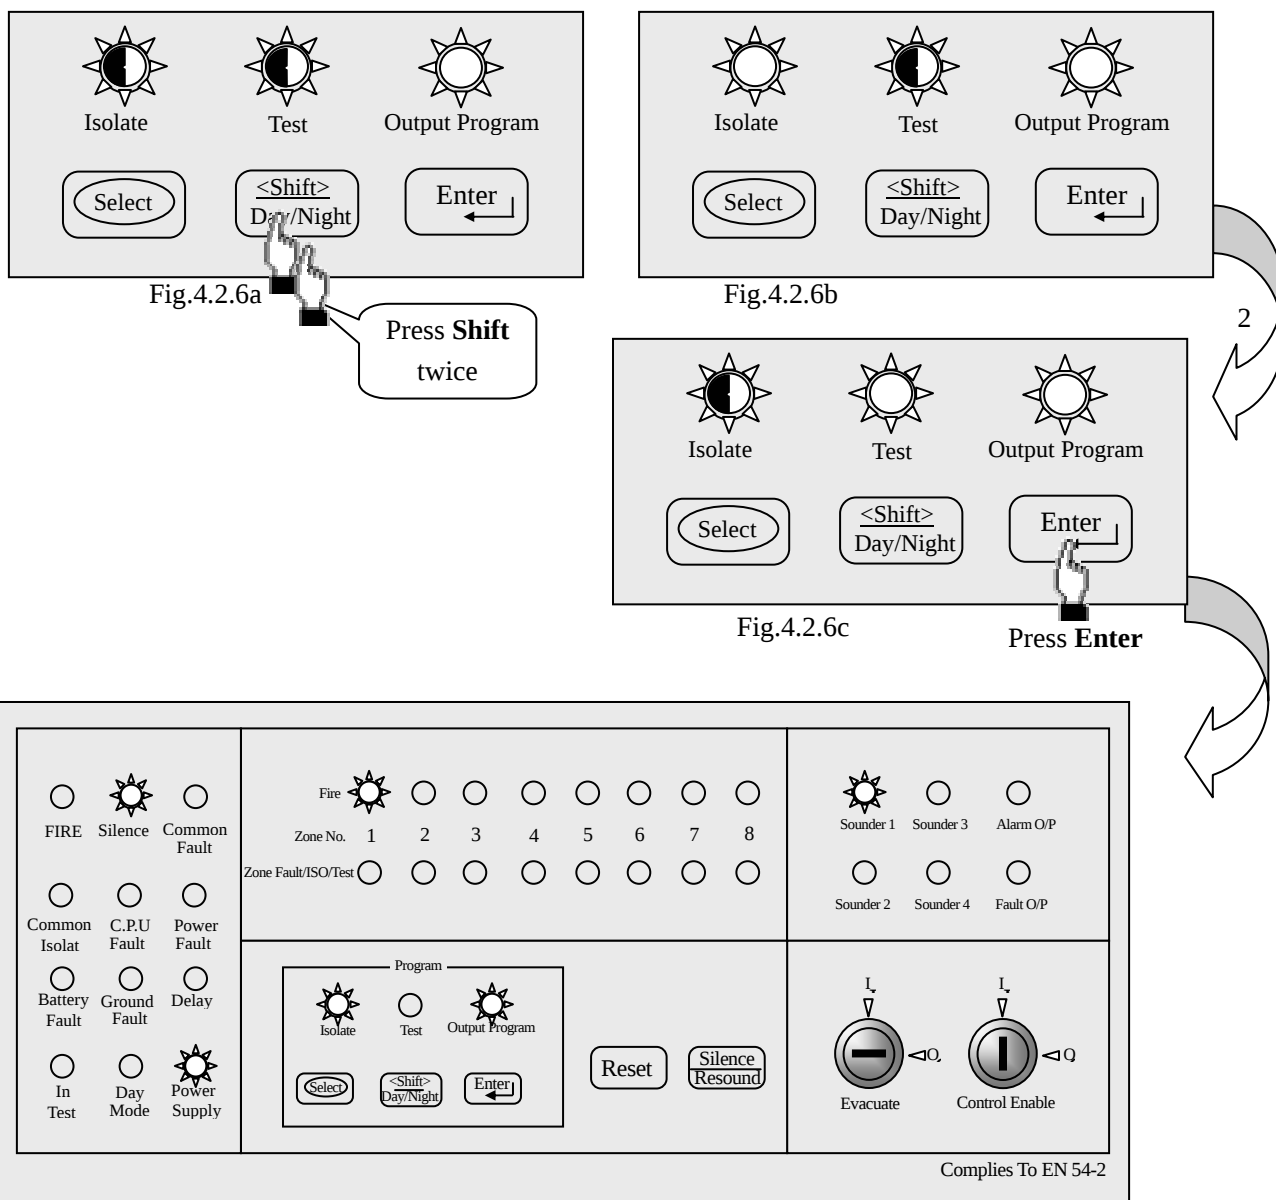

Fig.4.2.6d
4.2.6.1 In the output programming state, press the **Shift** pushbutton twice (see Fig.4.2.6a-Fig.4.2.6c) and press the **Enter** pushbutton to confirm, the system will enter in the operation of configuring sounder delay mode. See Fig.4.2.6d.